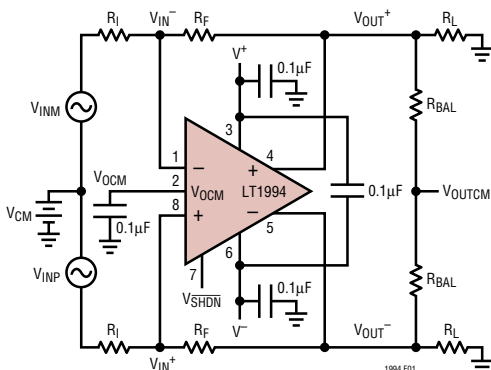

Figure 1. Test Circuit
**Note 7:** Input Common Mode Range is tested using the Test Circuit of Figure 1 ( $R_F = R_I$ ) by applying a single ended 2VP-P, 1kHz signal to  $V_{INP}$  ( $V_{INM} = 0$ ), and measuring the output distortion (THD) at the common mode Voltage Range limits listed in the Electrical Characteristics table, and confirming the output THD is better than -40dB. The voltage range for the output common mode range (Pin 2) is tested using the Test Circuit of Figure 1 ( $R_F = R_I$ ) by applying a 0.5V peak, 1kHz signal to the  $V_{OCM}$  Pin 2 (with  $V_{INP} = V_{INM} = 0$ ) and measuring the output distortion (THD) at  $V_{OUTCM}$  with  $V_{OCM}$  biased 0.5V from the  $V_{OCM}$  pin range limits listed in the Electrical Characteristics Table, and confirming the THD is better than -40dB.
a need for ADCs to process signals differentially in order to maintain good signal to noise ratios. These ADCs are typically supplied from a single supply voltage that can be as low as 2.5V and will have an optimal common mode input range near mid-supply. The LT1994 makes interfacing to these ADCs trivial, by providing both single ended to differential conversion as well as common mode level shifting. Figure 1 shows a general single supply application with perfectly matched feedback networks from  $OUT^+$  and  $OUT^-$ . The gain to  $V_{OUTDIFF}$  from  $V_{INM}$  and  $V_{INP}$  is:
The input impedance looking into the  $V_{INP}$  or  $V_{INM}$  input of Figure 1 depends on whether or not the sources  $V_{INP}$  and  $V_{INM}$  are fully differential. For balanced input sources ( $V_{INP} = -V_{INM}$ ), the input impedance seen at either input is simply: